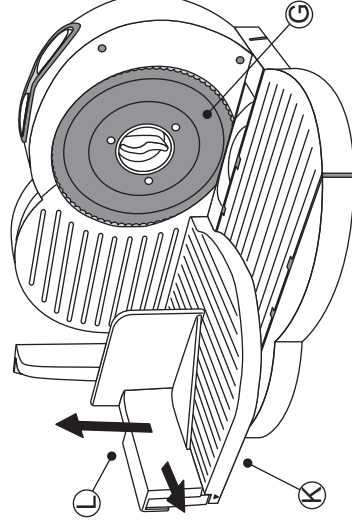

fig. 11
2. Ensure the unit is hygienically clean. Before assembling the Food Slicer, and with the unit unplugged, thoroughly wipe off all parts with a clean cloth using warm soapy water and a mild anti-bacterial detergent. In addition, the following parts should be removed and cleaned in hot soapy water: Protective Guide (L), Blade Assembly (G), and Food Tray (K). Clean the Food Slicer after every use. See fig. 11.